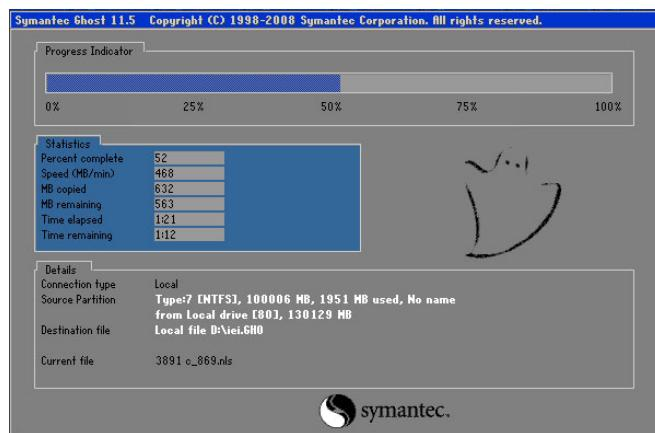

Figure B-19: Image Creation Process
**Step 10:** The Symantec Ghost starts to create the factory default image (**Figure B-19**).